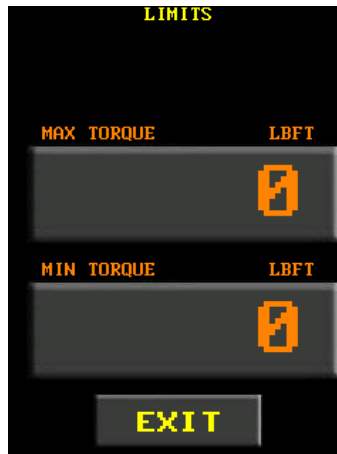

Figure 5.17-1: Torque Limits Screen
4. Press and hold the "Set Angle" button for 3 seconds. The Torque Limits screen will be displayed (Figure 5.17-1).